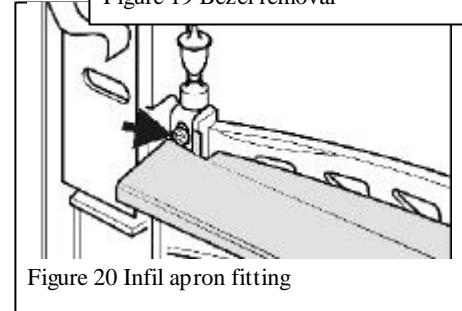

Figure 20 Infill apron fitting
- Remove the two screws securing the brass finials to the lower cross member of the front casting. Fit the bottom infill apron behind the finial brackets. Secure with the two screws. See figure 20.